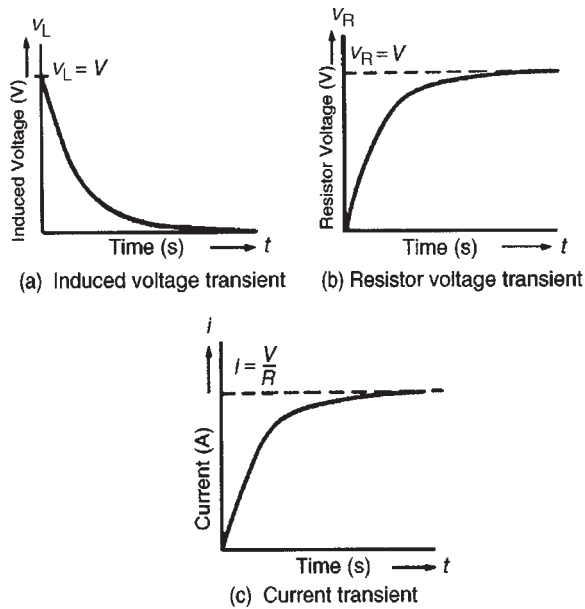

Figure 18.11
- (g) Curves showing the changes in v_L , v_R and i with time are shown in Fig. 18.11 and indicate that v_L is a maximum value initially (i.e. equal to V), decaying exponentially to zero, whereas v_R and i grow exponentially from zero to their steady-state values of V and $I = V/R$ respectively.
Each of the transient curves shown in Fig. 18.11 have mathematical equations, and these are: